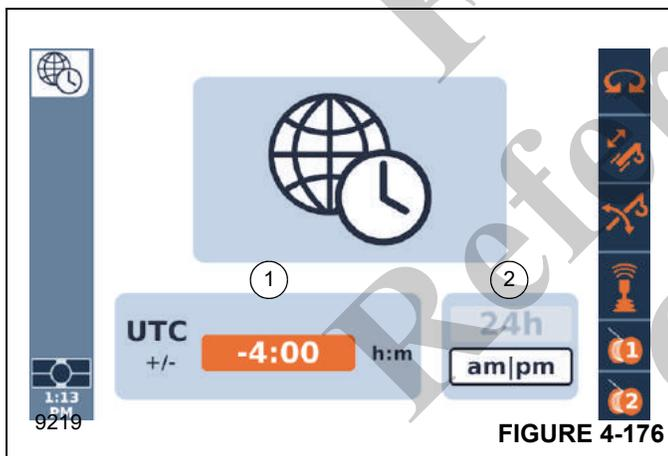

FIGURE 4-176
The Time Set function screen (Figure 4-176) allows the operator to set the time and the time format that is displayed on the ODM and RDM screens.
- Using the Jog Dial or Arrow Buttons on the Navigation Control Pad, select the UTC Offset field (1, Figure 4-176).
- Using the Jog Dial or Arrow Buttons, select the Time Format field (2, Figure 4-176).